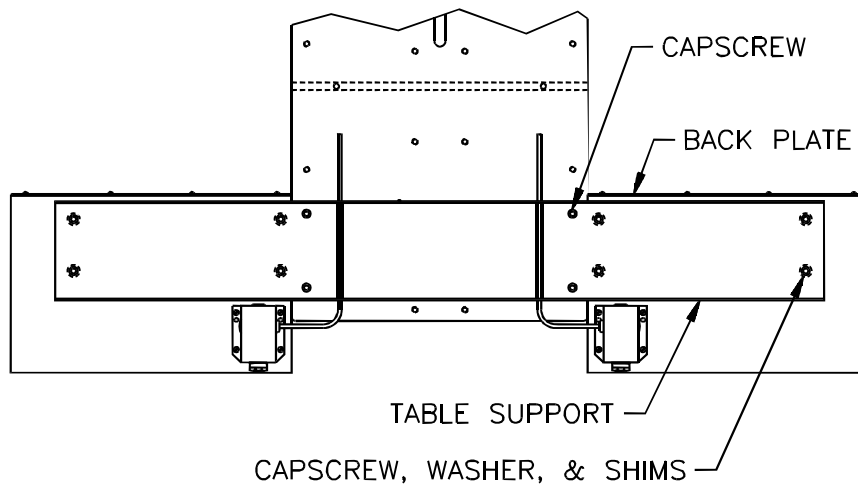

Figure 11
Using the wood screws provided, attach a back plate to each extension table. Using (4) 3/8-16 capscrews, attach the table support to the under side of the main table as shown in (Figure 11). Route each cut button wire through the slots in the bracket and relocate the cut buttons to the extension tables (as shown). Place the provided flat washers on the table support above each slot receiving a screw to mount the extension table on the support. Lay the table extension on top of the spacers and insert the screws. Slide the table extension tight to the table. Shim the extension tables as necessary to make the tables flush using the provided shims.